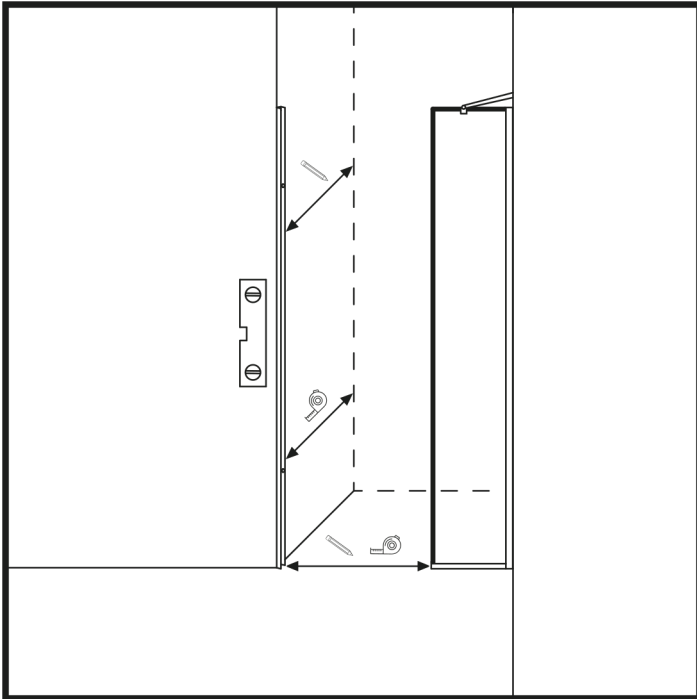

Figure 11
28. Measure the distance of the hinge bar profile from the parallel wall according to the designed location of the shower door. Also measure the distance to the already installed glass wall so that the not yet installed glass door is horizontally parallel to the glass wall. (Figure 11)